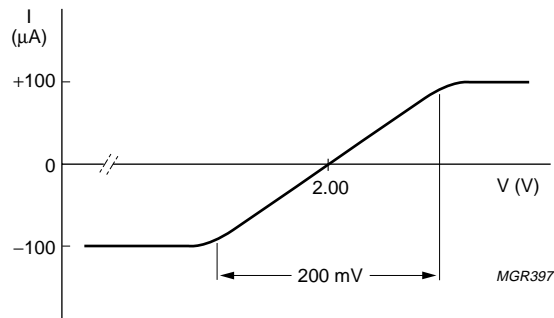
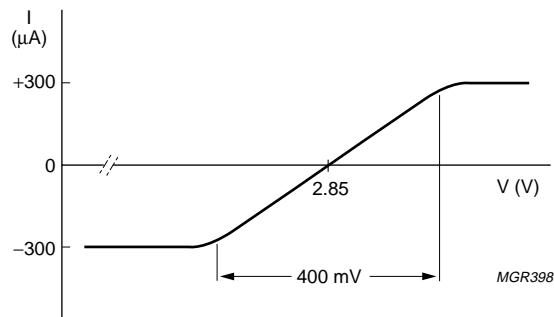

Fig.9 Typical clamp current for pin CPCDS.
Fig.10 Typical clamp current for pins IND and INP.
1. More information about CDS related signals is available in the following figures: The clamp current for pin CPCDS is given in Fig. 9, clamp current for pins IND and INP in Fig 10 and for clamp current for pin Vref in Fig 11. The CDS output amplitude is shown in Fig. 14